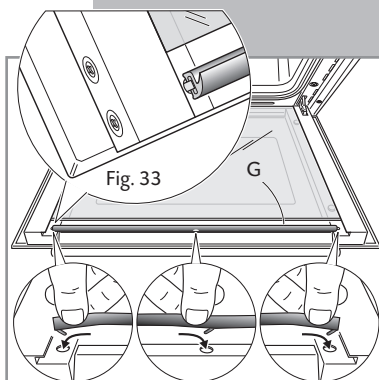

Fig. 34
- Reassemble the seal **G** in the correct way (fig. 33) by hooking the no. 3 fixing hooks in the proper holes (fig. 34).